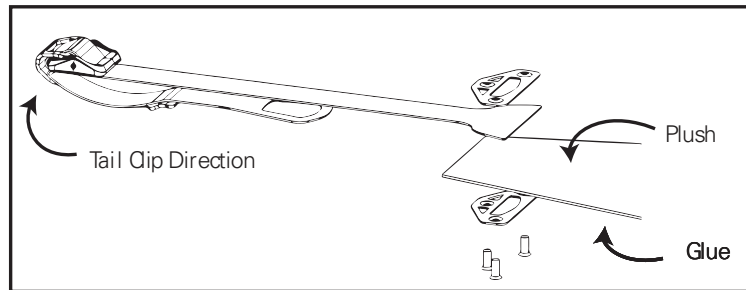

Figure 2
5. Assemble the pieces, taking care to line up the tail strap in the correct orientation as shown in Figure 2. Align the holes drilled in Step 4. The recesses in the metal plates should be facing out on both sides.